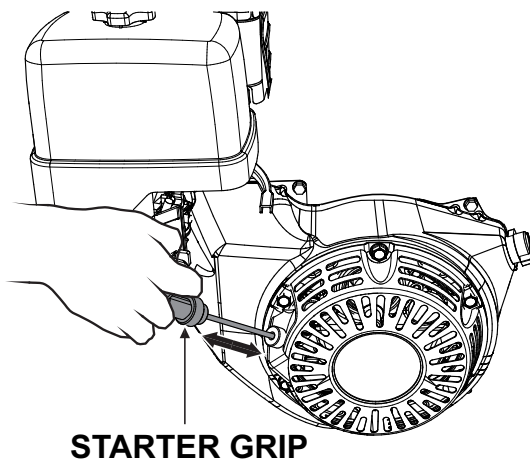

Figure 18. Starter Grip
3. Grasp the starter grip (Figure 18) and slowly pull it out. The resistance becomes the hardest at a certain position, corresponding to the compression point. Pull the starter grip briskly and smoothly for starting.